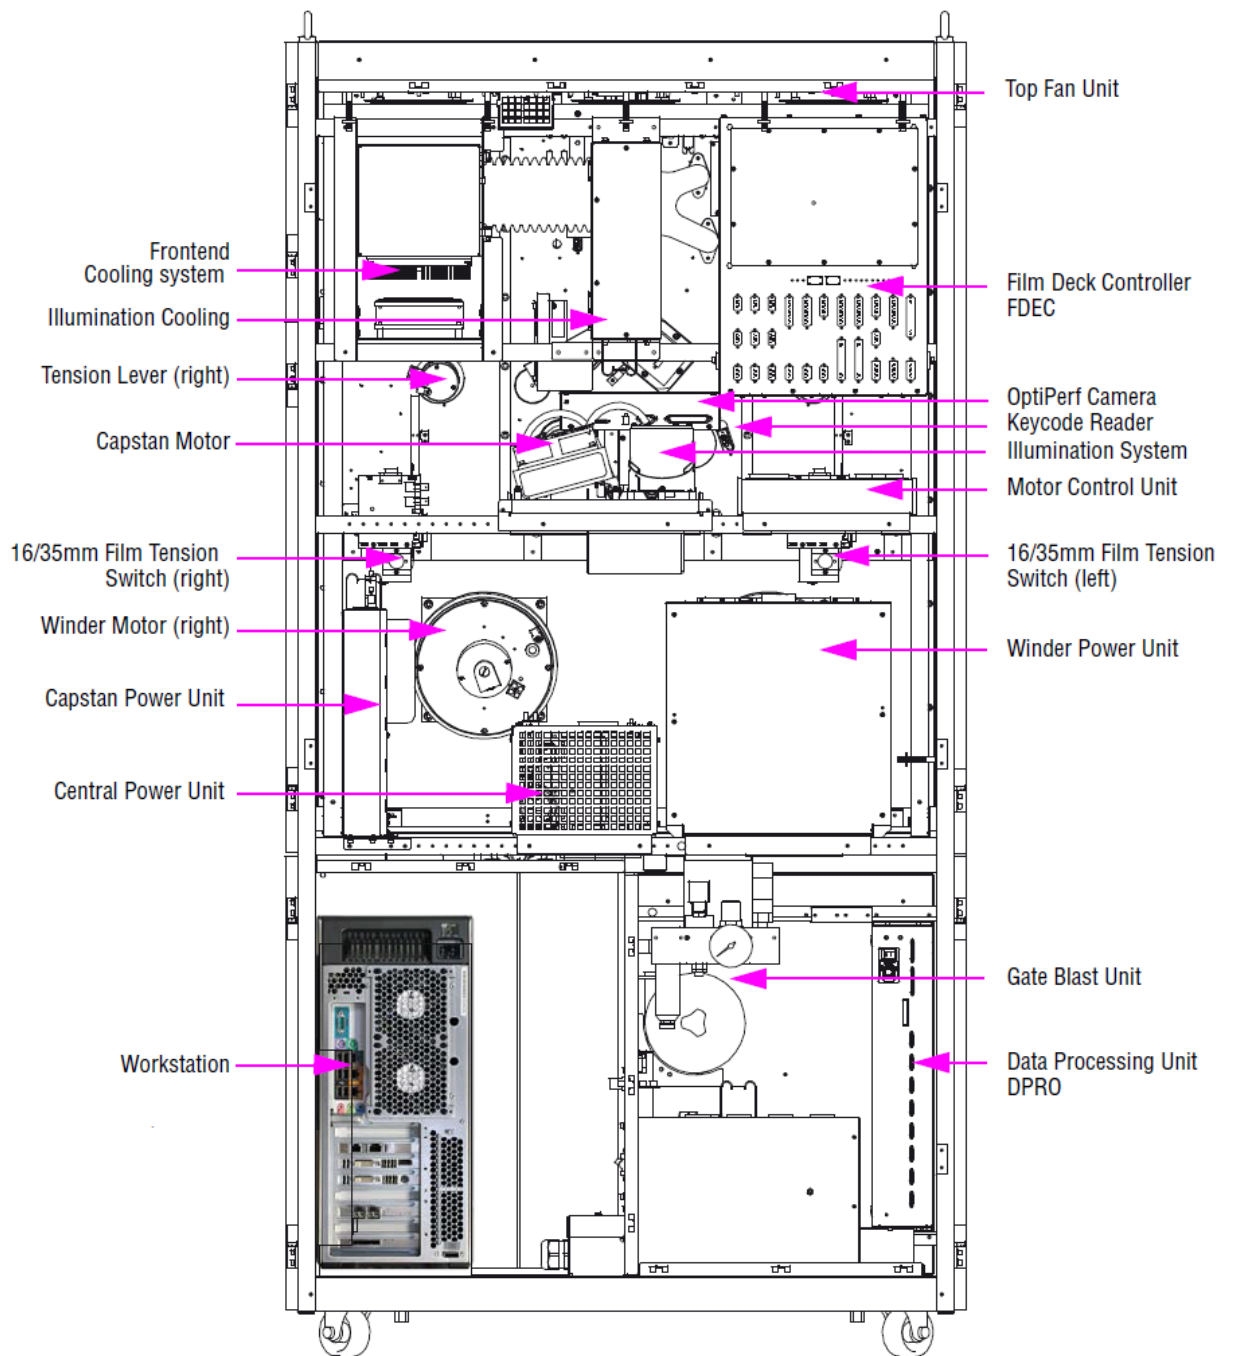

Figure 9: Rear View
3. Please grasp the LGA at the upper handle lever and at the lower knob only, see Figure 9